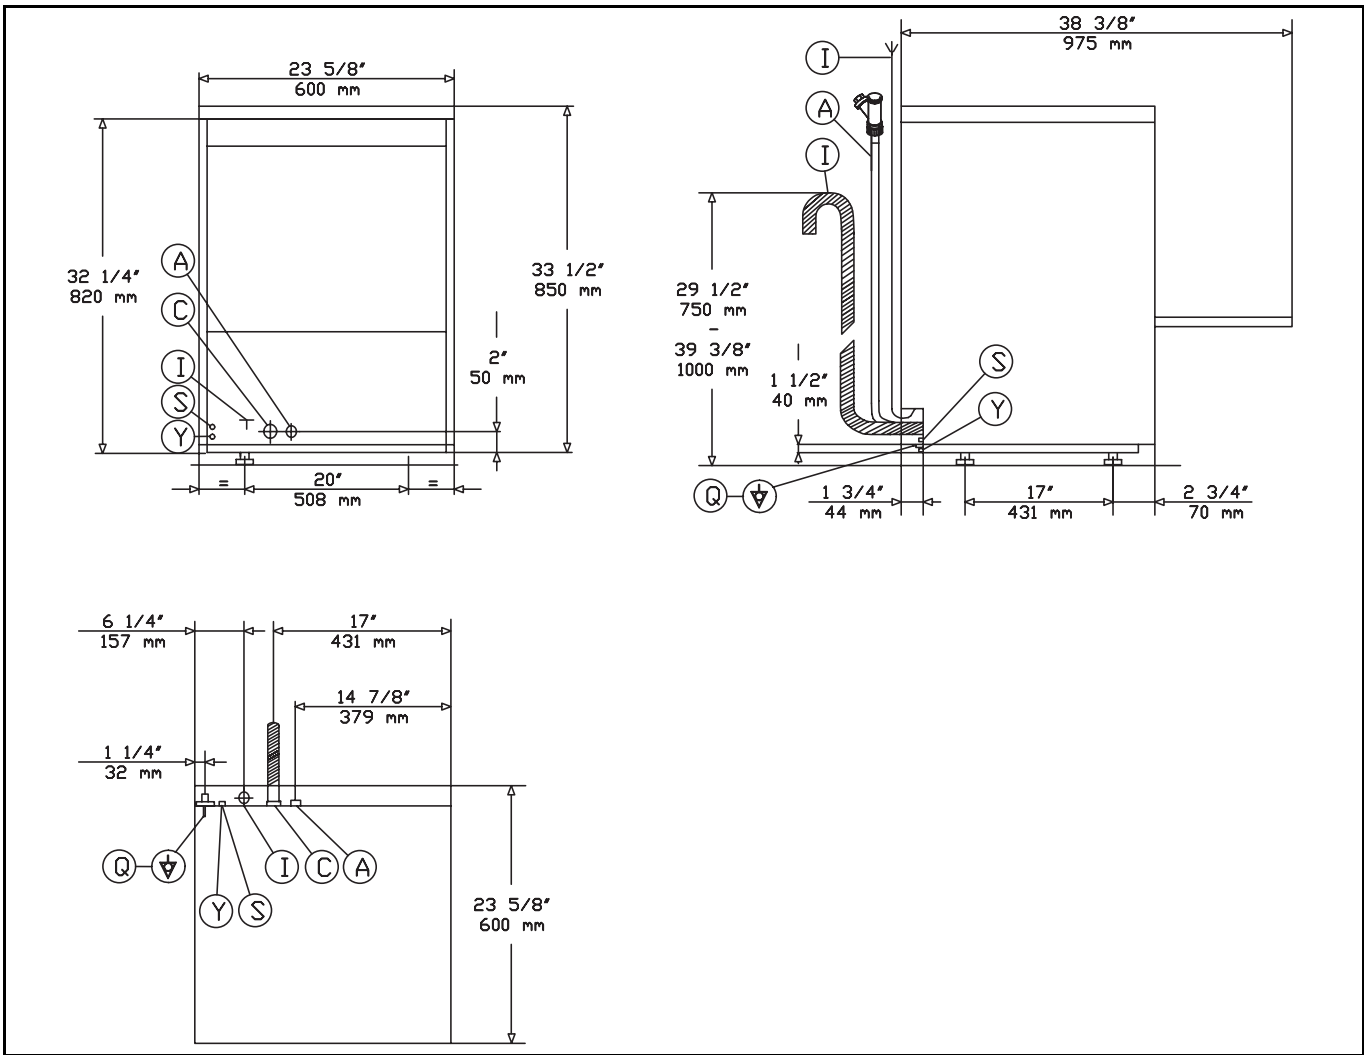
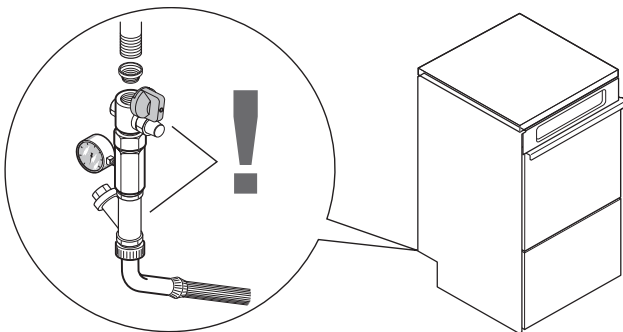

Figure 4
Figure 7
Legend Figure 4
- Connect the appliance water supply pipe “A” (Figure 4) (keeping with local plumbing codes) to the incoming water supply. Install a shutoff valve, Y-Strainer, and a pressure gauge between the appliance and the incoming water supply of the unit (Figure 7).
- The appliance requires a ground connection to the unit ground screw located at the rear of the unit marked “Q” (Figure 4) in the manual and marked with the symbol “⚡” on the unit. The ground wire must have a cross section of AWG 8/8.35 mm². Do not use the wiring conduit or other piping for ground connections. If necessary, have the electrician supply the ground wire.